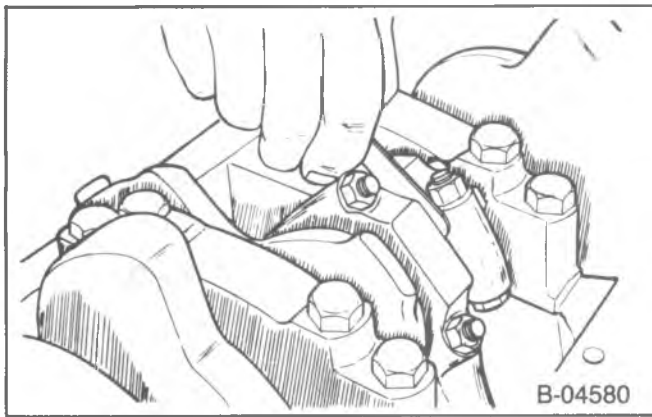

Figure 31—Measuring Connecting Rod Side Clearance
- Connecting rod side clearance. Use a feeler gage between the connecting rod and crankshaft (figure 31). The correct clearance is 0.013–0.023-inch.